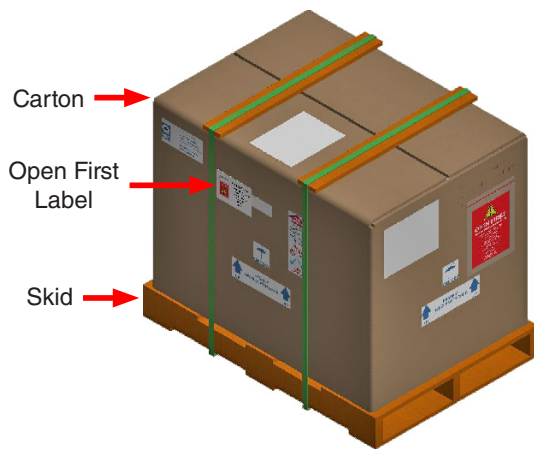

Figure 5.2a: This packaging has a carton banded to a wooden skid
- Q-SUN Xe-1-B, Xe-1-SE, and Xe-1-WE testers are shipped in one of two types of packaging (Figure 5.2a and Figure 5.2b).